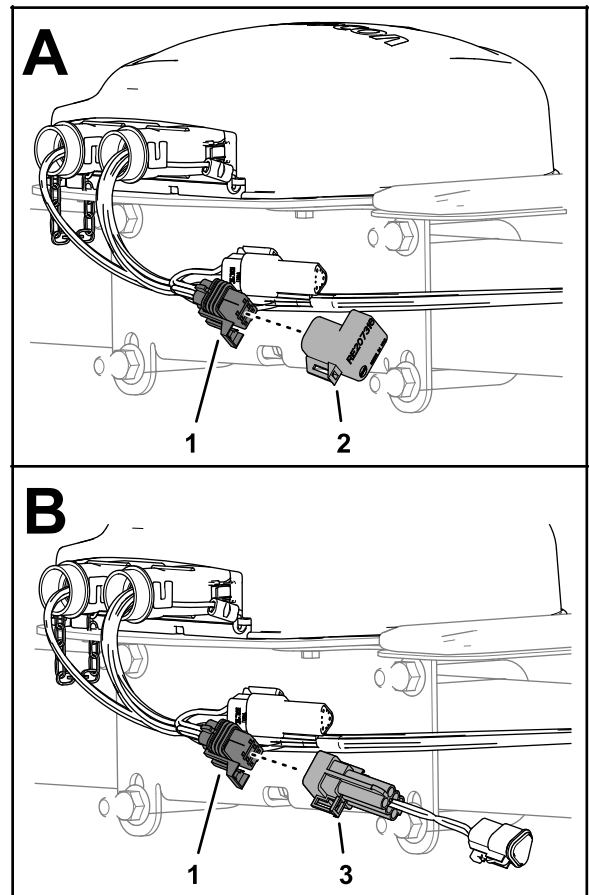

Figure 180
1. At the satellite receiver, remove the ISO bus terminator for the 6-socket connector of the GeoLink harness (Figure 180).
2. Plug the 6-pin connector of the adapter harness—13 cm (5 inches) into the 6-socket connector of the GeoLink harness (Figure 180).